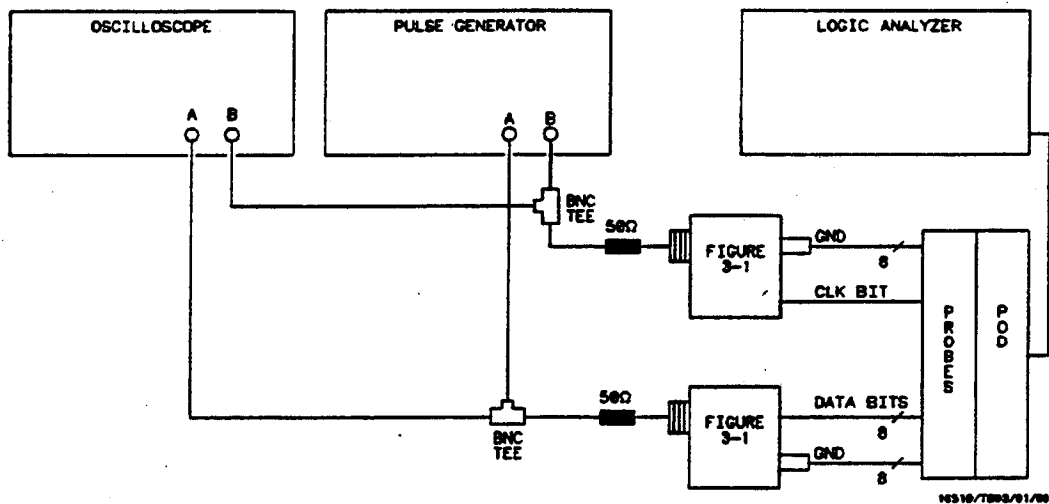

Figure 3-11. Equipment Setup For Test 2
1. Connect the HP 16510B and test equipment as shown in figure 3-11.